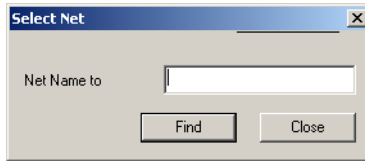

Figure 2-7. Select Net dialog box
1. **From the Net menu, click *Select Net*.** The Select Net dialog box is displayed, as shown in Figure 2-7.